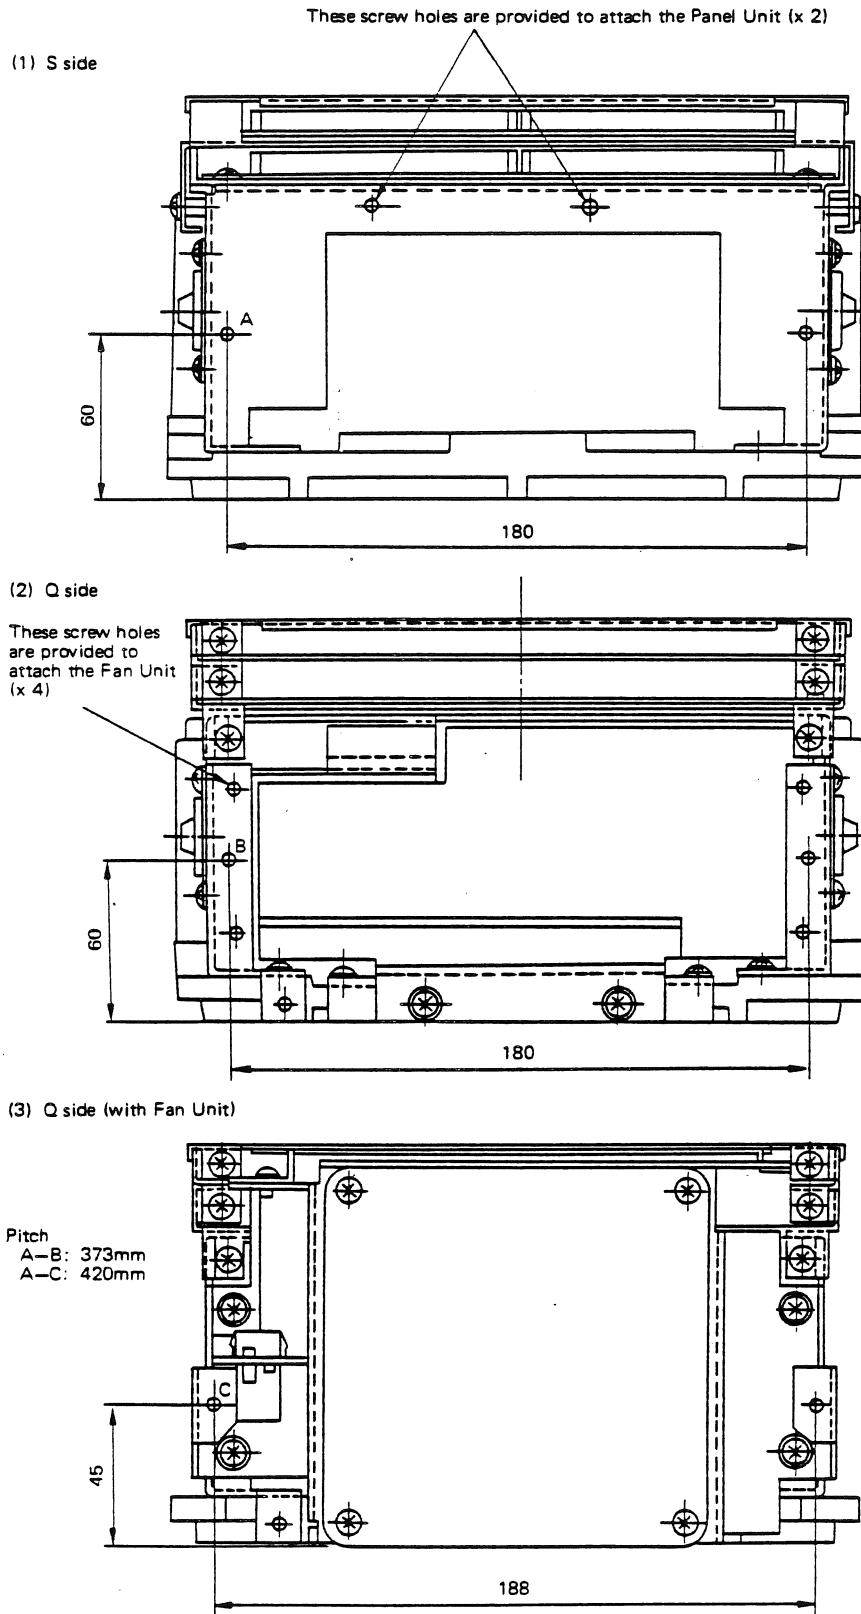

Figure 4-9 Dimensions of the Screw Holes
(Refer to Figure 4-9 (3))
Figure 4-9 shows the dimensions of the screw holes.